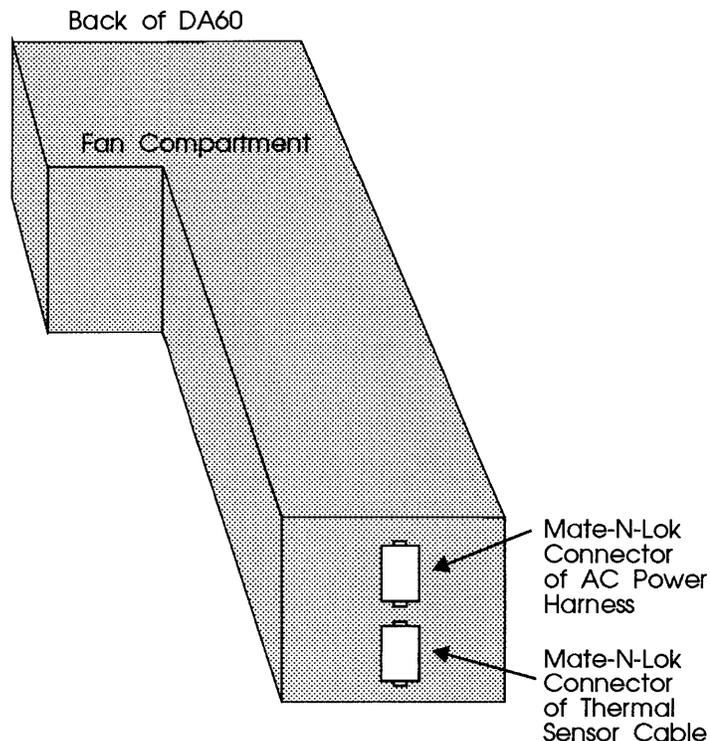

Figure 6-9: DA60 Fan Compartment with Mate-N-Lok
- a Disconnect the Mate-N-Lok connectors of the AC power harness from the DA60 fan compartment; and disconnect the thermal sensor cable. See Figure 6-9.